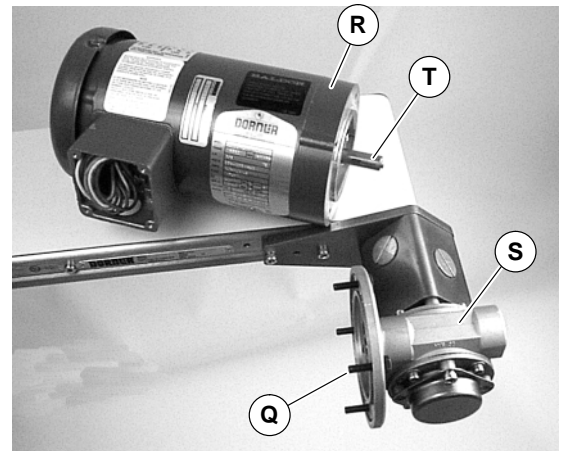

Figure 19
4. Remove four screws (Q of Figure 19). Detach motor (R) from gear reducer (S). Retain motor output shaft key (T).